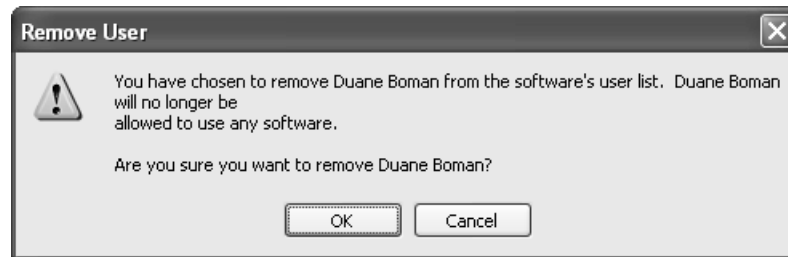

Figure 8-8: The Remove User Warning Dialog
- 5) The **Remove User** warning dialog opens (Figure 8-8).